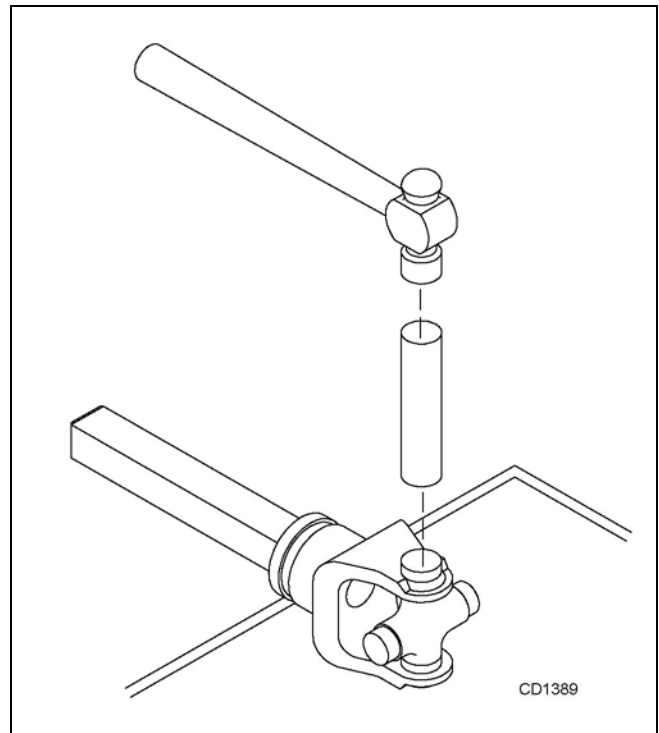

**Figure 26.** Remove Cups
4. Place universal cross in vise as shown in Figure 26 and tap on yoke to remove cup. Repeat Step 3 for final removal. Drive remaining cup out with a drift and hammer.